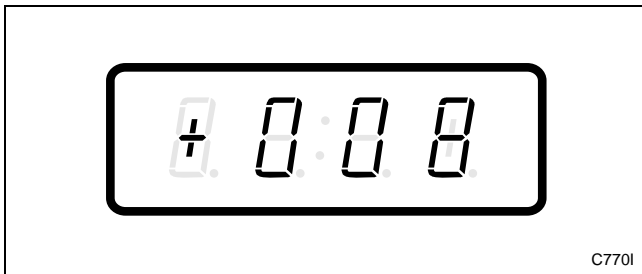

Figure 4
3. Press the DELICATES (+) or the COLD (-) keypad to scroll through the programmable options until “+008” appears in the VFD. Refer to *Figure 4*.